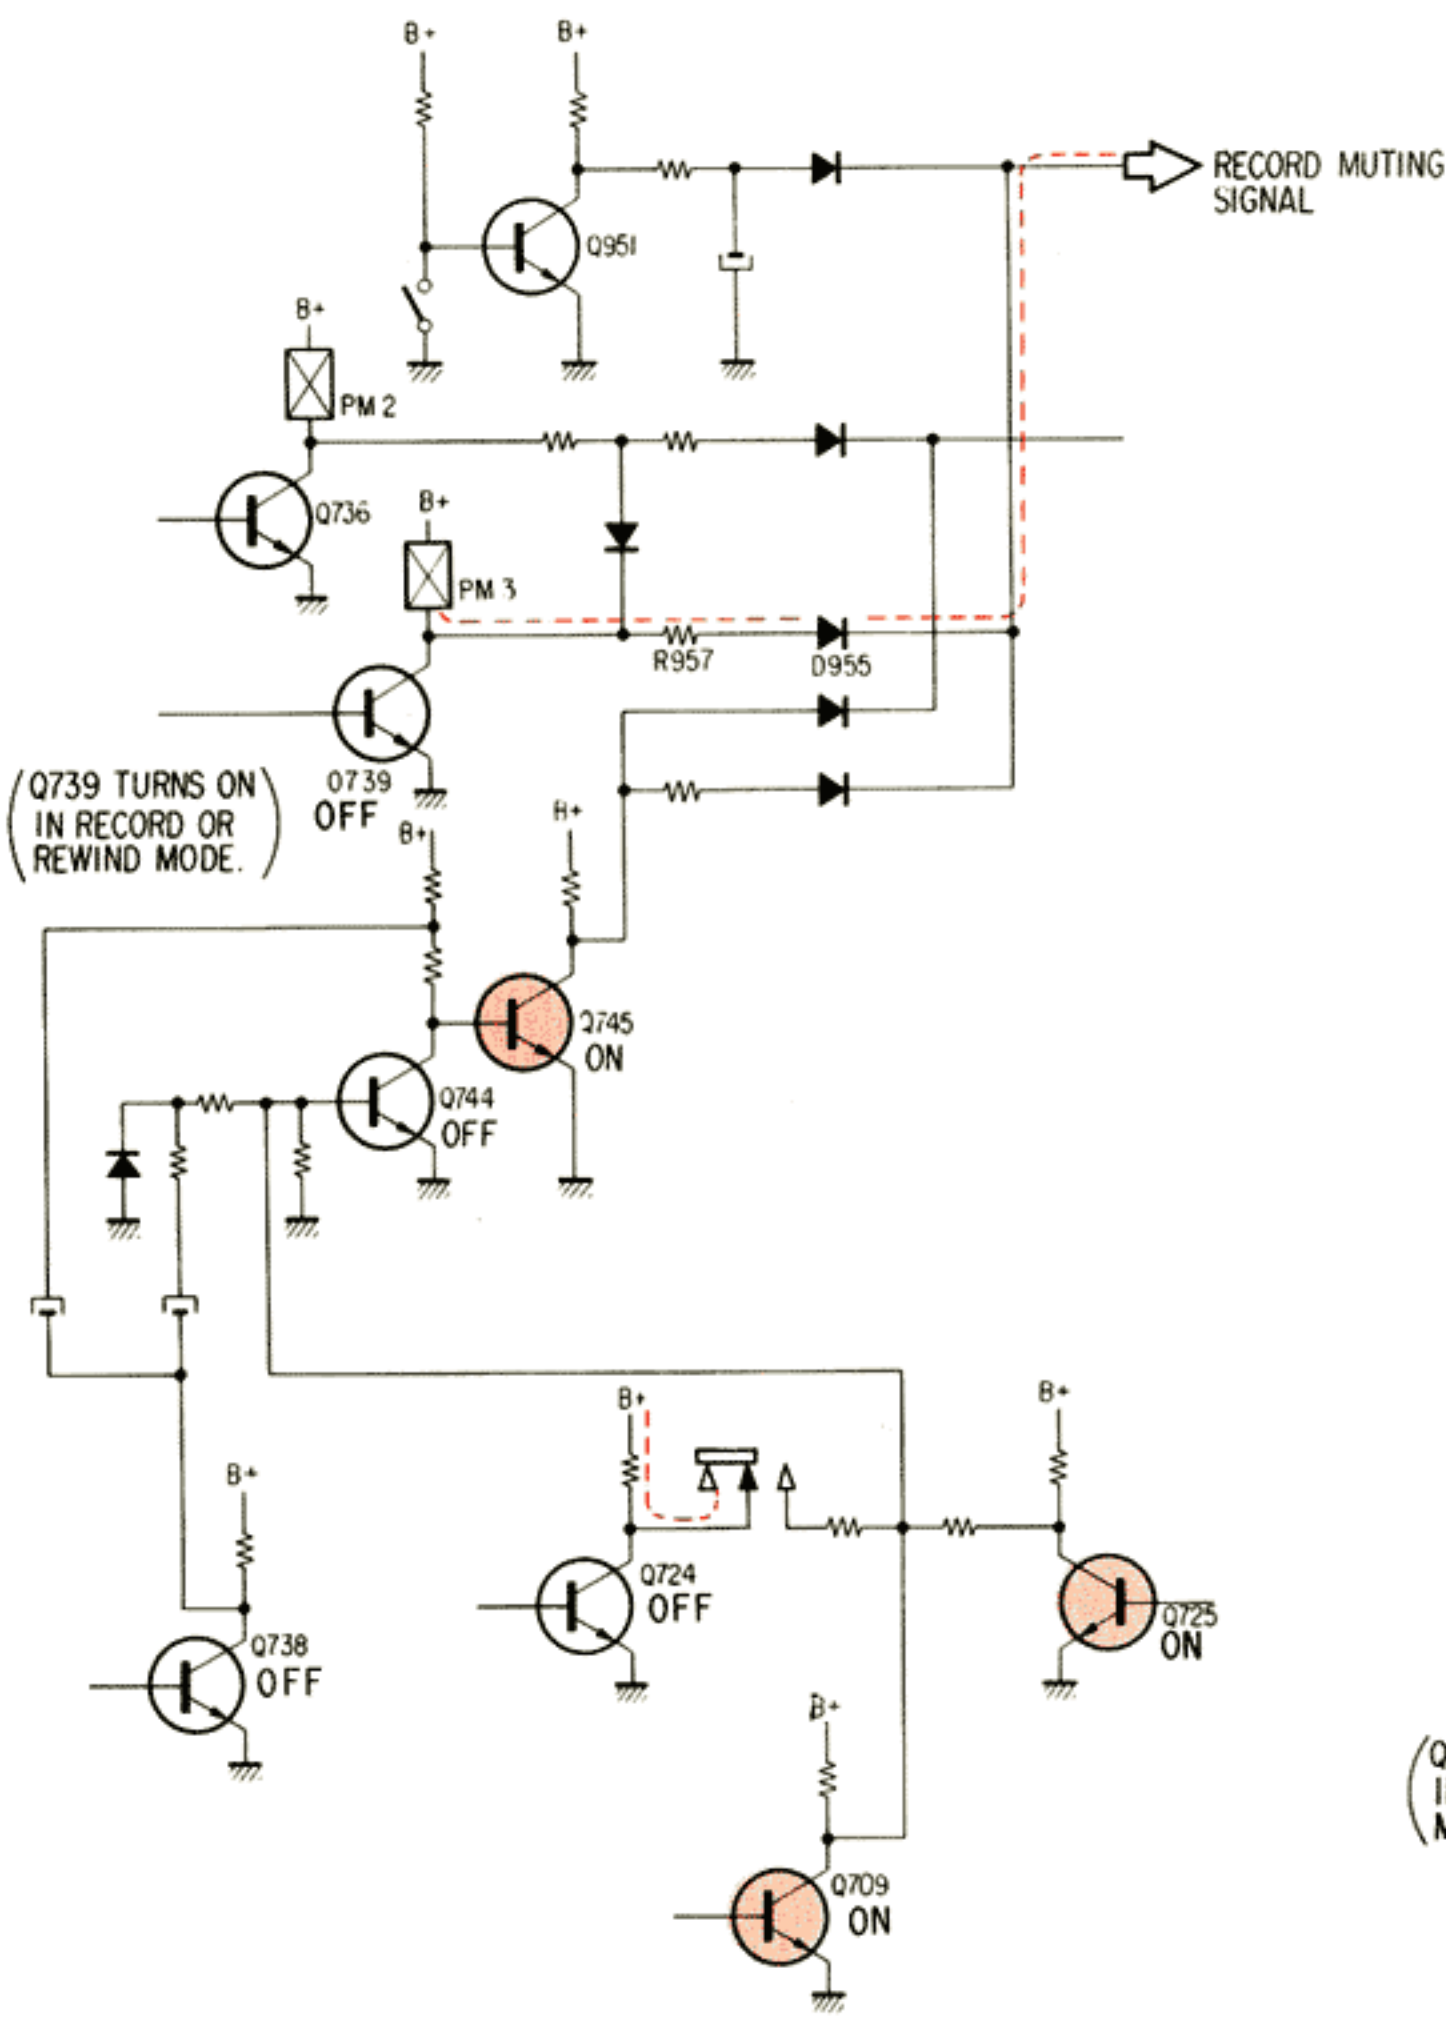

Fig. 1-11 Forward Mode
3. Forward mode (See Fig. 1-11)